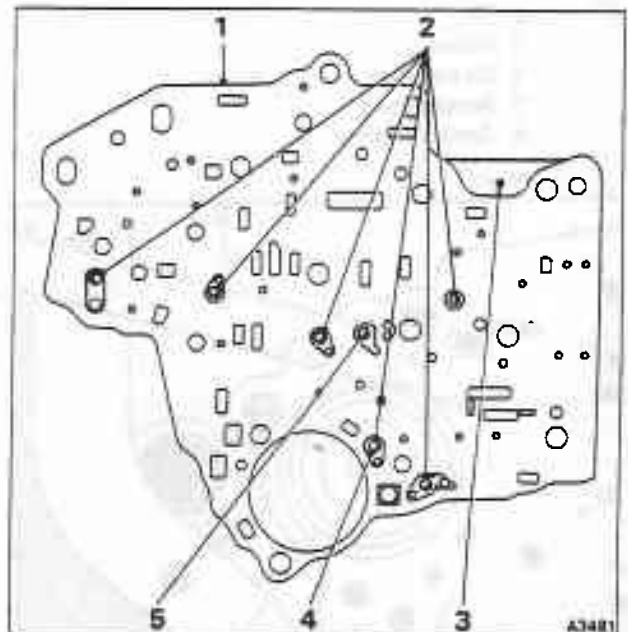

Fig. T15-2 Location of check balls - spacer plate
- Note** One or two check balls are non-functional, therefore, on **RMA, RMAB, RNA, and RNAB transmissions** omit either one or two balls as shown in figure T15-2.